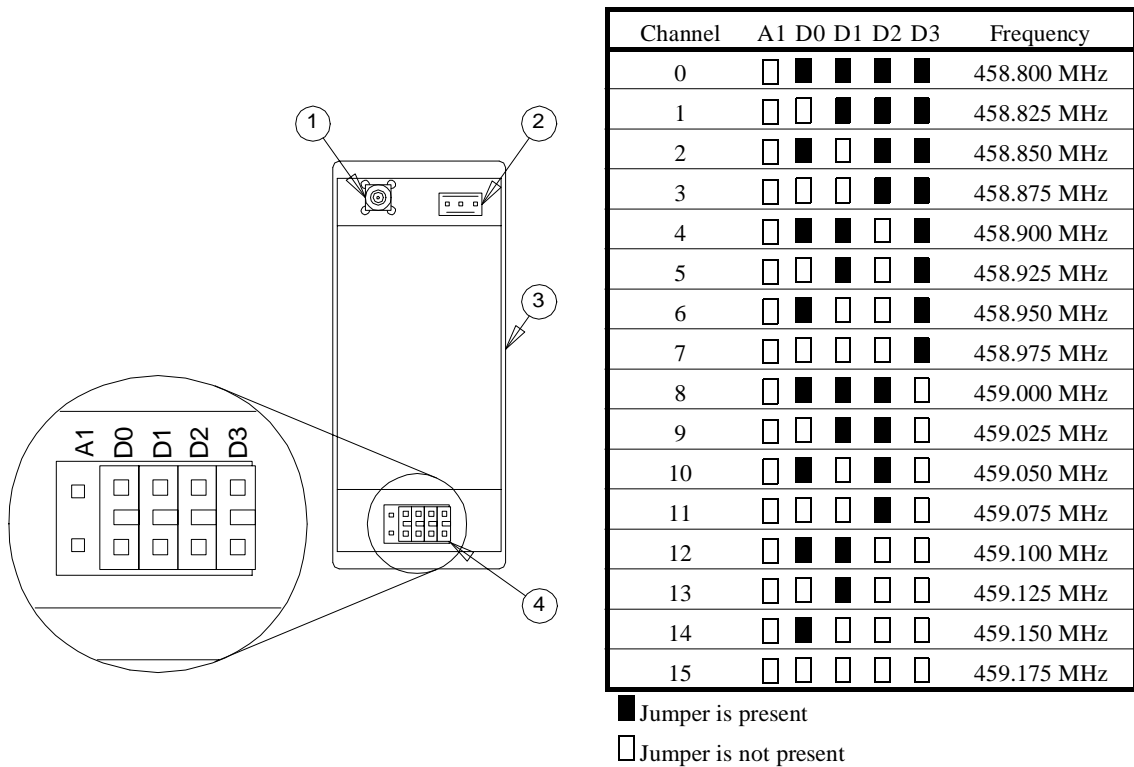

Figure 2.9: Receiver Frequency Channel Diagram
The PulseStar•610 transmitter and receiver operate over the 400—470 MHz frequency range (70-cm band). There are 16 possible frequencies and 16 corresponding channels available. Figure 2.9: Receiver Frequency Channel Diagram shows each channel, its respective frequency, and the position of the five jumpers according to the diagram for the frequency channel you are setting.
2. Reference Figure 2.9: Receiver Frequency Channel Diagram to locate the Frequency Channel Jumper Block inside the receiver.
3. Set the frequency channel jumpers according Figure 2.9: Receiver Frequency Channel Diagram for the appropriate frequency channel. A black box indicates that a jumper should be present in that position. A white box indicates there should be no jumper present in that position.